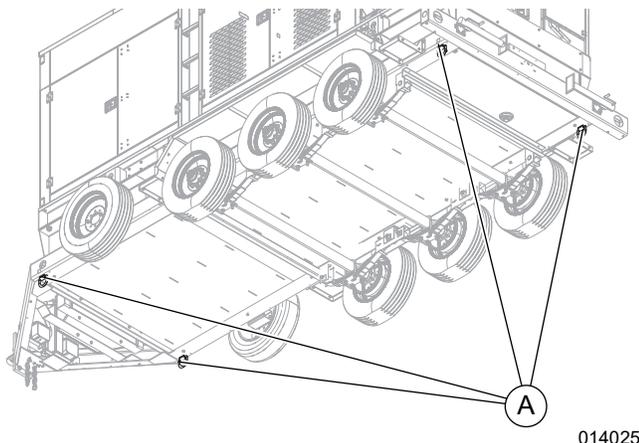

Figure 3-22. Tie-Down Points
See Figure 3-22. Use the tie-down points (A) as shown.